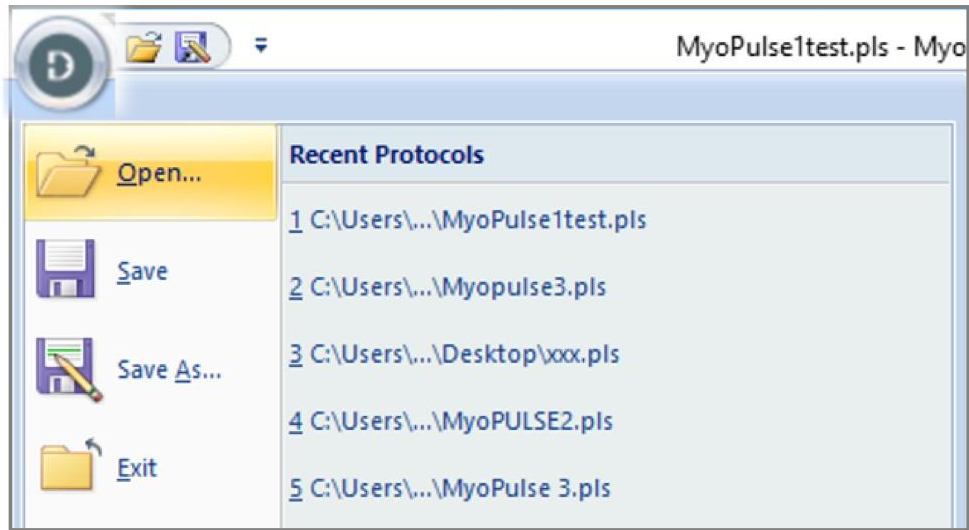

Figure 4.1.5 Opening an existing protocol to load into All channels
3. Load a stimulation Protocol for all channels by clicking on the icon 'D' and 'Open' in the top left corner/ application button (\*.pls files) as shown in figure 4.1.5.